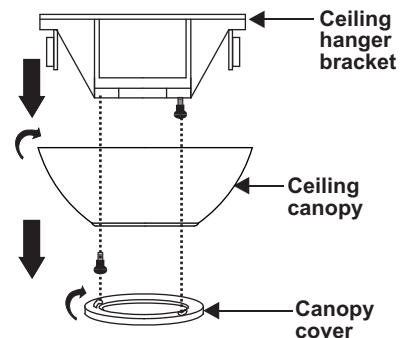

Figure 2
1. Remove the decorative canopy bottom cover from the canopy by turning the cover counter clockwise. (Fig. 2)
2. Remove the hanger bracket from the canopy by removing the 1 of 2 screws from the bottom of the hanger bracket and loosening the other one a half turn from the screw head. Next, turn the canopy counter clockwise to removing the hanger bracket from the canopy. (Fig. 2)